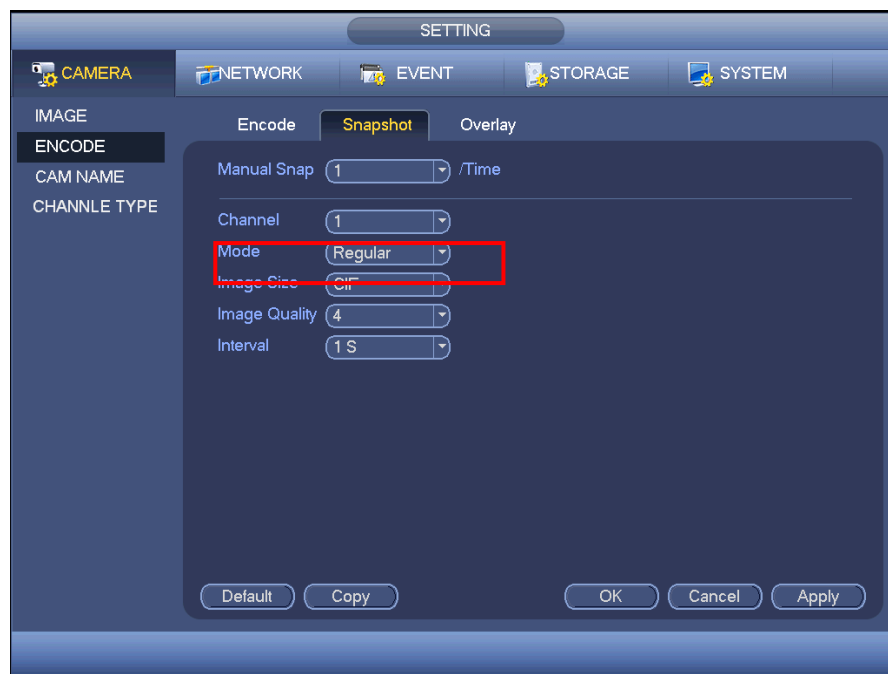

Figure 4-106
- In main menu, from Setting->Camera->Encode->Snapshot interface, here you can input snapshot mode as regular, size, quality and frequency. See Figure 4-106.